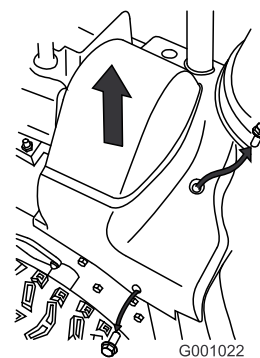

Figure 45
2. Lift up the right side of the belt cover (Figure 45).